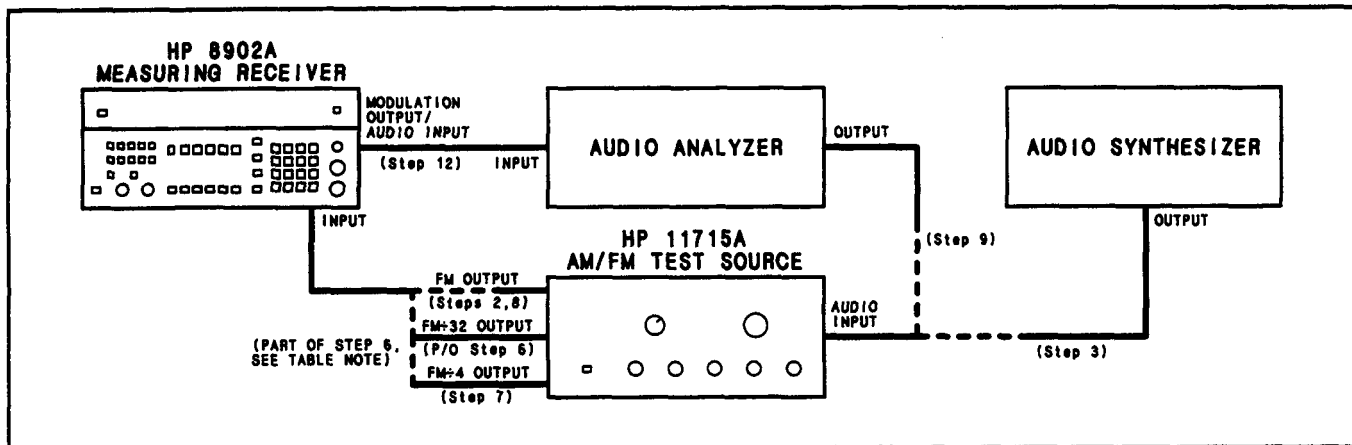

Figure 4-3. FM Performance Test Setup
2. On the AM/FM test source, set the test mode to FM. Connect its FM output to the Measuring Receiver's INPUT. (See Figure 4-3.)
3. Set the audio synthesizer to 200 Hz at -10 dBm. Connect its output to the audio input of the AM/FM test source. (See Figure 4-3.)
* Connect the FM÷32 output of the AM/FM test source to the Measuring Receiver's INPUT to make this measurement. (See Figure 4-3.) Press AUTOMATIC OPERATION, then MHz to return the Measuring Receiver. If the resolution is not 0.001 rad, press Φ M again.
7. On the Measuring Receiver, key in 3.1 SPCL to set the IF to 455 kHz. Press FM. On the AM/FM test source, connect the FM÷4 output. (See Figure 4-3.) Set the audio synthesizer frequency as shown in the following table. Set the Measuring Receiver High Pass Filter as shown in the table. Set the audio synthesizer level to give the FM deviation shown in the table. After setting each FM deviation, press Φ M. For each setting, the Measuring Receiver's display should read between the limits indicated in the table.
8. Connect the FM output of the AM/FM test source to the Measuring Receiver's INPUT. (See Figure 4-3.) Press AUTOMATIC OPERATION on the Measuring Receiver.
9. Set the audio analyzer's oscillator to 1 kHz. Connect its output to the audio input of the AM/FM test source. (See Figure 4-3.)
12. Connect the audio analyzer's input to the Measuring Receiver's MODULATION OUTPUT/AUDIO INPUT. (See Figure 4-3.) Set the audio analyzer to measure the distortion on the 1 kHz signal at the MODULATION OUTPUT/AUDIO INPUT. Set the high-pass filter on the audio analyzer to 400 Hz. The distortion should be 0.1% (-60 dB) or less.